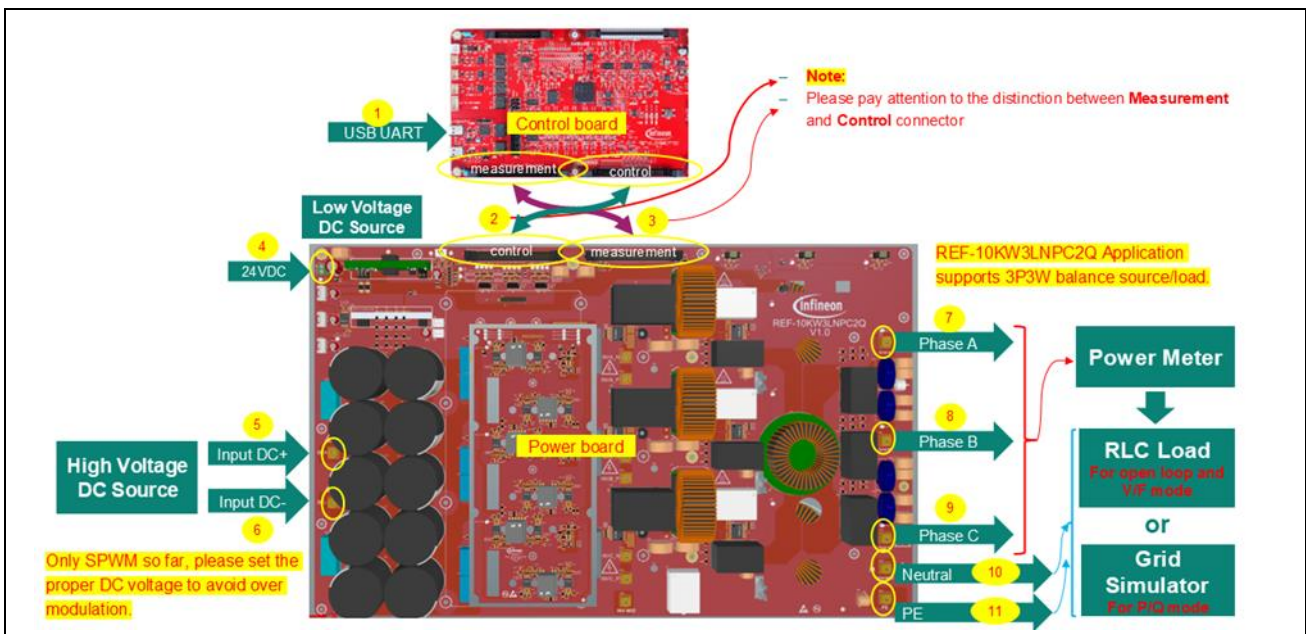

Figure 72 Detail description for test bench setup
1. Complete the hardware connection according to Figure 72 and follow the steps 1 to 11 as depicted. Note the distinction between the measurement and the control connector.